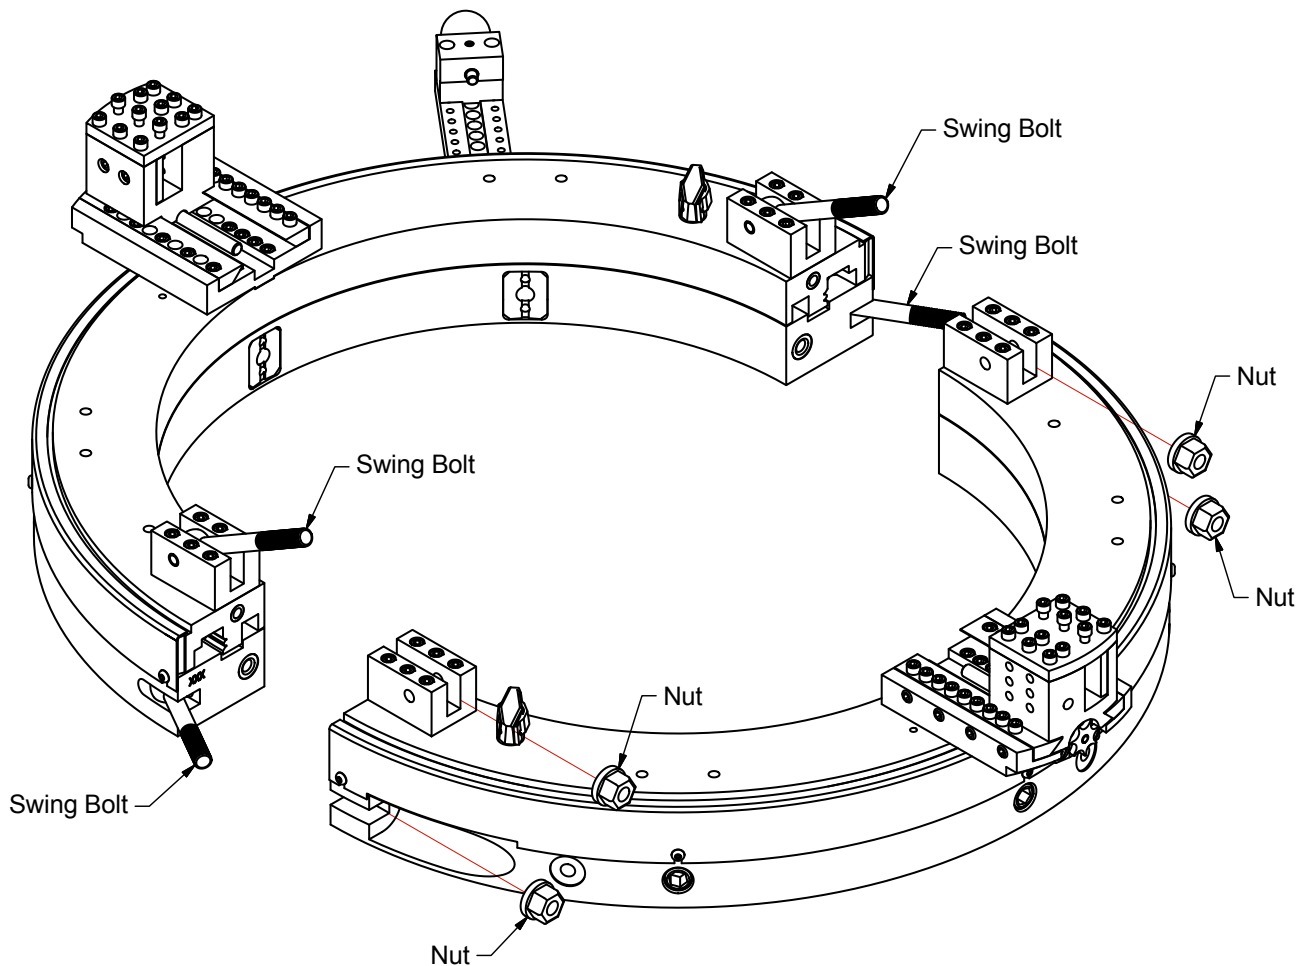

Figure 2-2 – Separate Clamshell Halves
2. Remove the nuts holding the four swing bolts. Separate the two clamshell frame halves by pulling straight apart. Do not pry or force open with tools. See Figure 2-2.